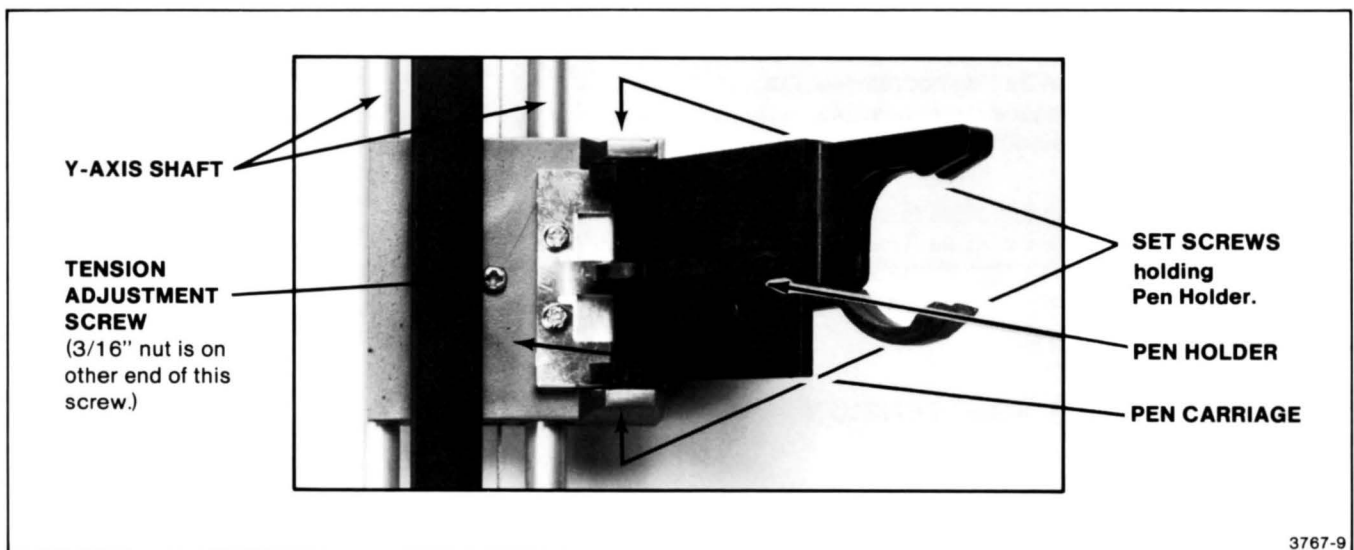

Figure 2-3. Pen Carriage Slide Tension Adjustment.
1. **Loosen** slightly (but do not remove) the 3/16" hex-nut that fastens to the tension adjustment screw shown in Figure 2-3. This nut is on the underside of the pen carriage.